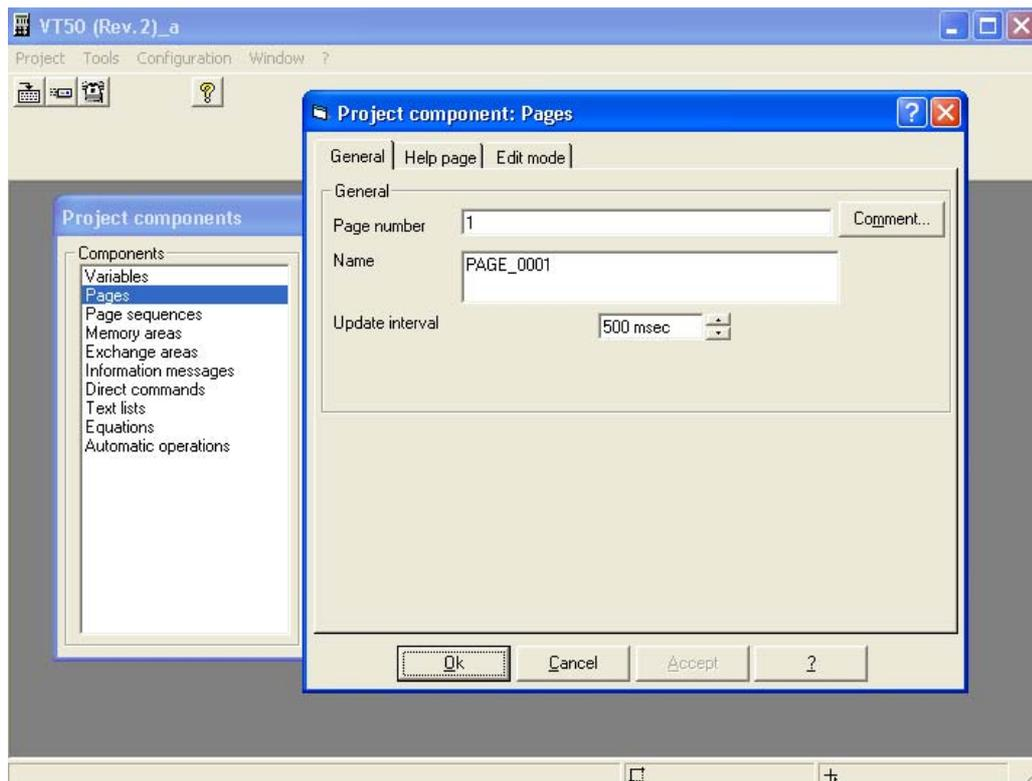

Fig. 18.
3.17 The next step is to design the pages on the HMI. Double-click on *Pages* from the *Project components* window. The *Project component: Pages* window will come up. Click OK. See Fig. 18.